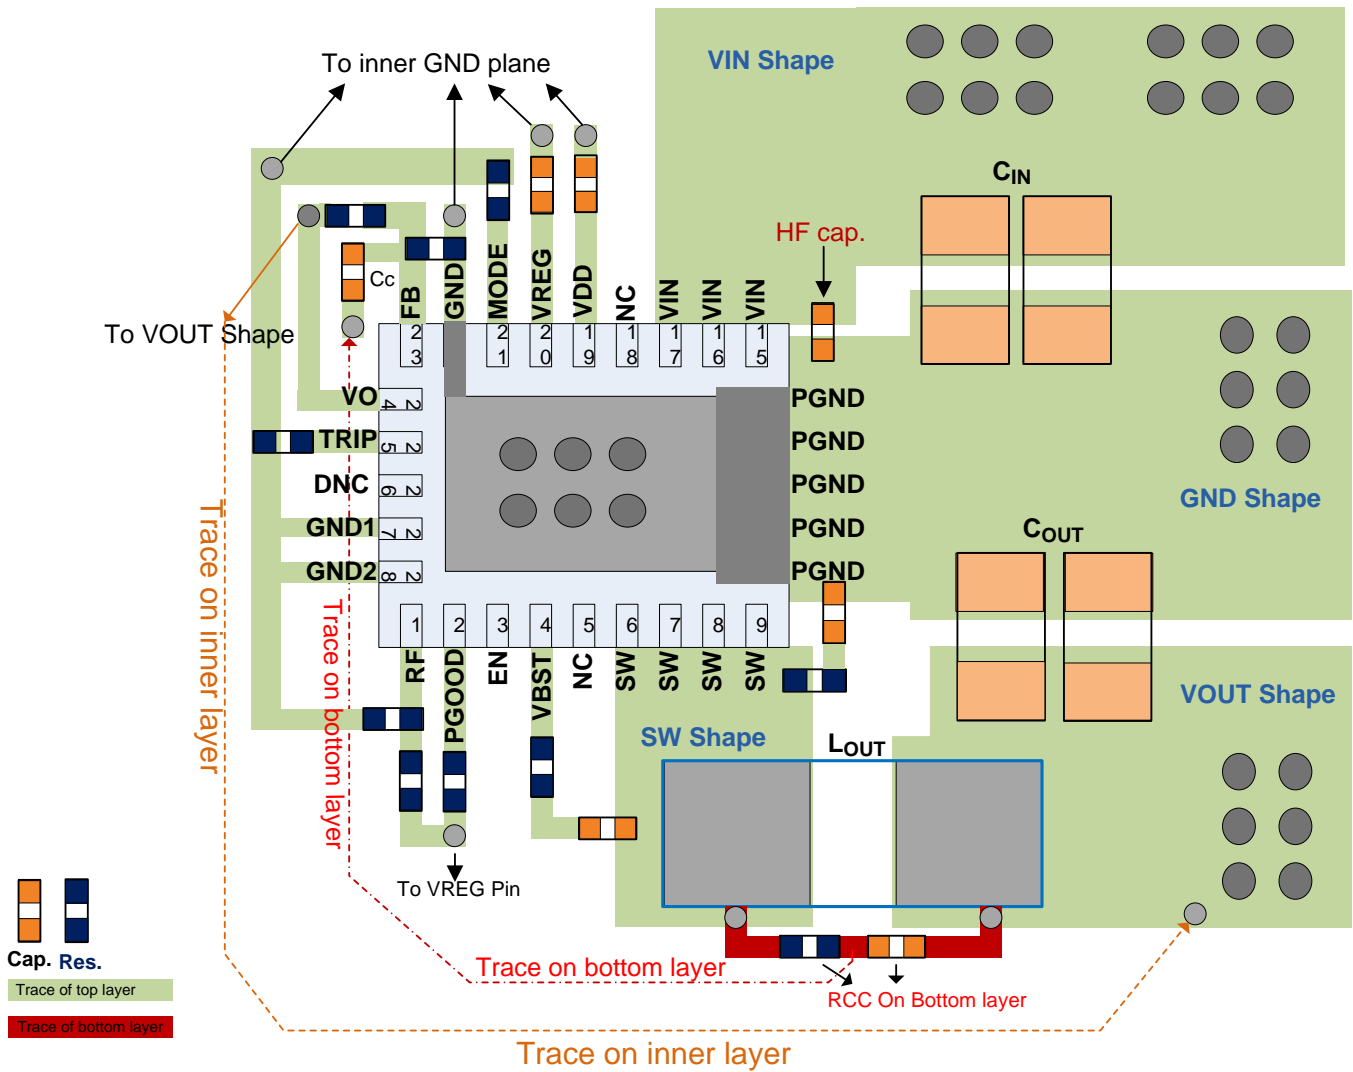

图 50. Layout Recommendation
- See 图 50 for the layout recommendation.